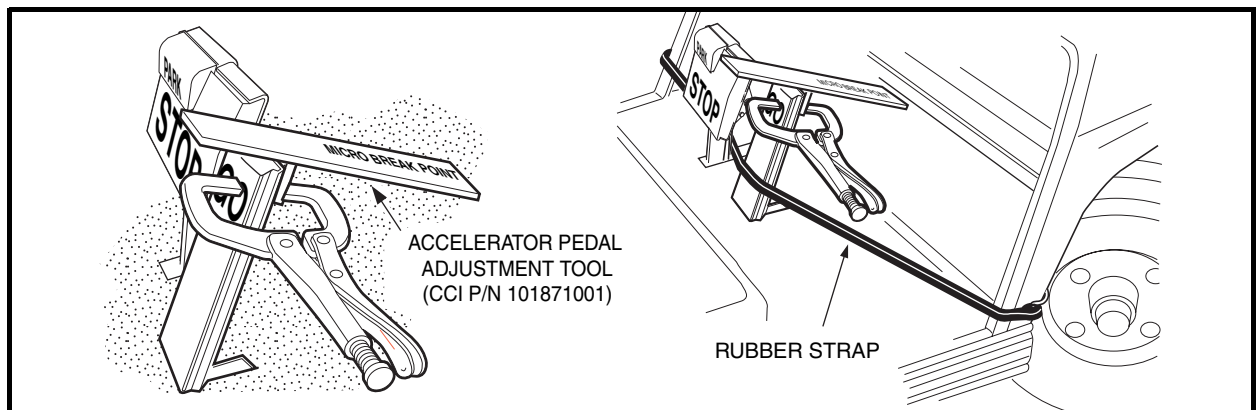

Figure 5-18 Accelerator Pedal Height Adjustment
- 5.2. Clamp the accelerator pedal adjustment tool (CCI P/N 101871001) to the accelerator pedal, with the end marked *accelerator pedal height* closest to the floorboard (**Figure 5-18, Page 5-14**). Press the accelerator pedal until the end of the tool rests against the floorboard; (pedal height should be 5-5/8 inches (14.3 cm)). Use a rubber strap to hold pedal in position against the floorboard and then tighten nut to 26 ft-lb (35.3 N·m).